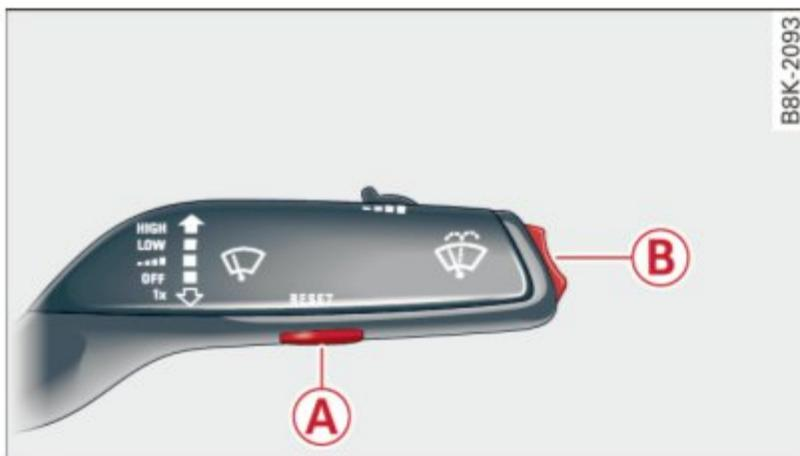

Fig. 11 Windshield wiper lever: controls for the trip computer
You can switch between the trip computer 1 and 2 and the efficiency program* by pressing the **RESET** button **A** ⇔ page 26, fig. 11.
- ▶ To display the trip computer memory levels, press the **RESET** button **A** ⇒ *fig. 11* repeatedly until the desired memory level is shown in the display.
- ▶ Press the **RESET** button **(A)** ⇒ *page 26, fig. 11* repeatedly until the efficiency program appears in the display.
- ▶ In the efficiency program, press the function selection switch ⇒ *page 26, fig. 11* (B) repeatedly until the enhanced shift indicator appears in the display.
- ▶ In the efficiency program, press the function selection switch ⇒ *page 26, fig. 11* (B) repeatedly until the other equipment appears in the display.
- ▶ To turn a fuel economy message off immediately after it appears, press the **RESET** button ⇒ page 26, fig. 11 (A), or
- ▶ Press the function selection switch ⇒ page 26, fig. 11 (B).